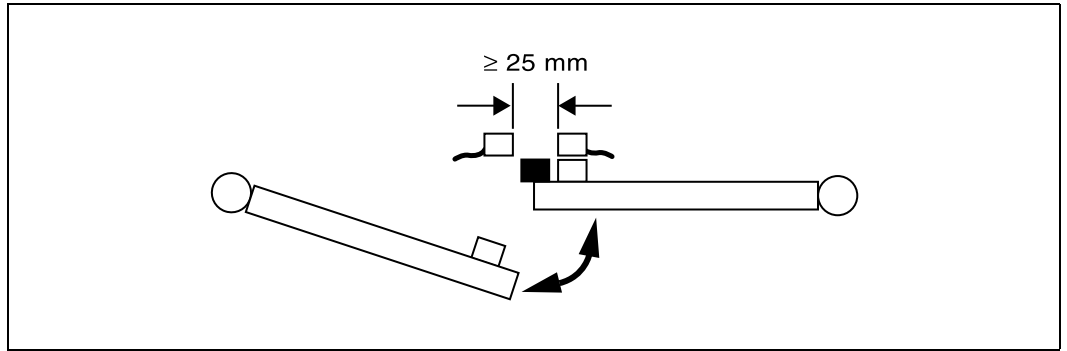

Fig. 3: Safety sensor mounted on hinged door (example)
- Minimum distance between two adjacent sensors: 25 mm. On hinged doors, install actuator on opening edge (Fig. 3).